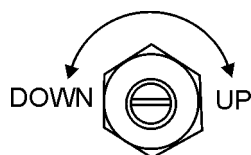

Figure 38. Engine Idle Adjust Trimmer
18. If the engine speed is too high or low, use the high idle adjust trimmer (Figure 38) located on the control box to adjust the rated speed of the engine